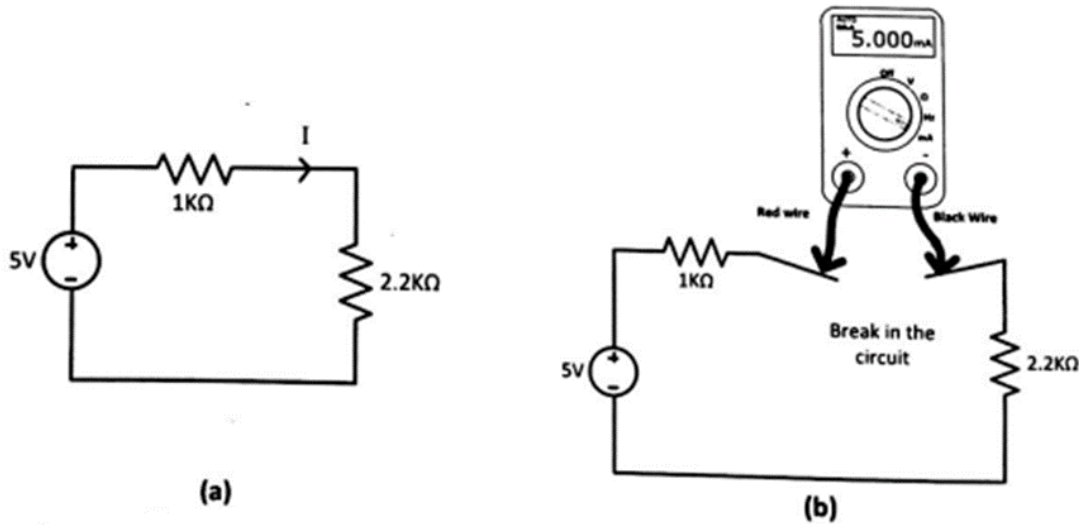

Figure 3: Circuit Diagram and actual connection for measuring current.
1. To measure the current in the series circuit in Fig 3(a) construct the circuit and then create a break in the circuit as shown in Fig 3(b)
3. Connect the red and black multimeter lead as shown in the Fig. 3 (b) (in series with the circuit).